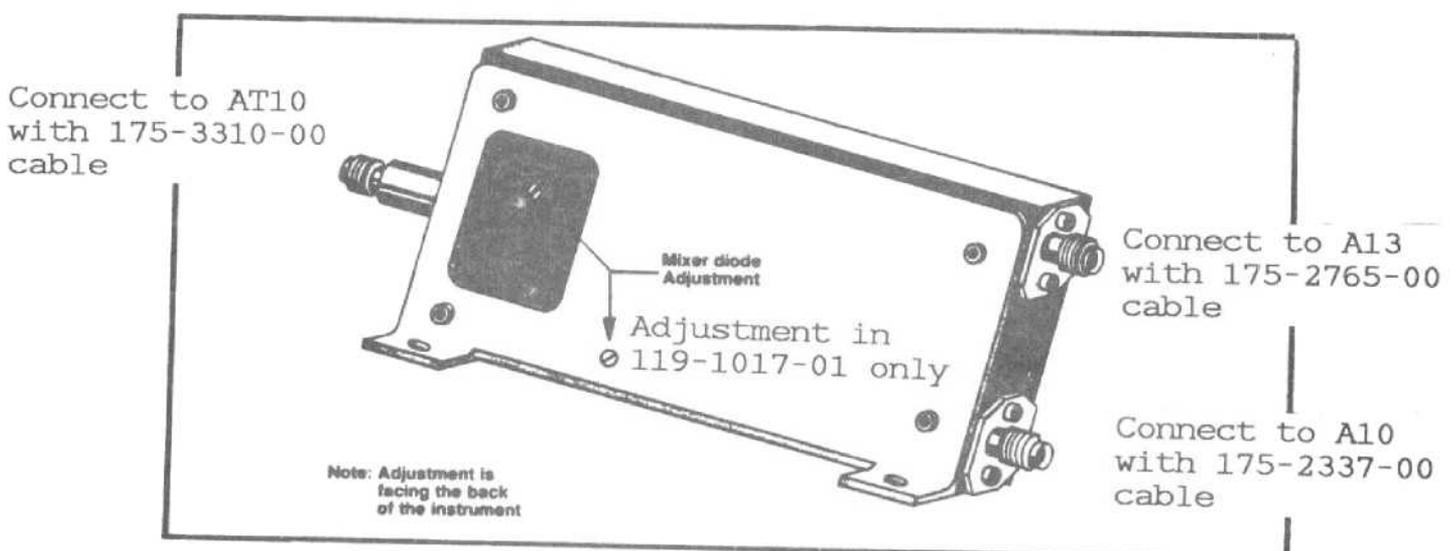

Fig.6-26A First Converter test equipment setup.
a. Remove the First Converter assembly from the spectrum analyzer, and connect the cables as shown in Fig.6-26A.